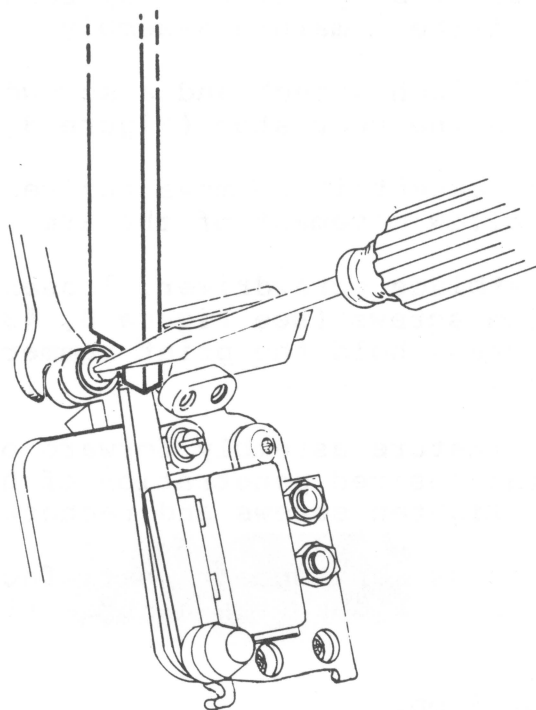

FIGURE 11
3. To adjust the rear stop, use a 3/16 inch wrench and a screwdriver to loosen the rear stop lock nut (see Figure 11).